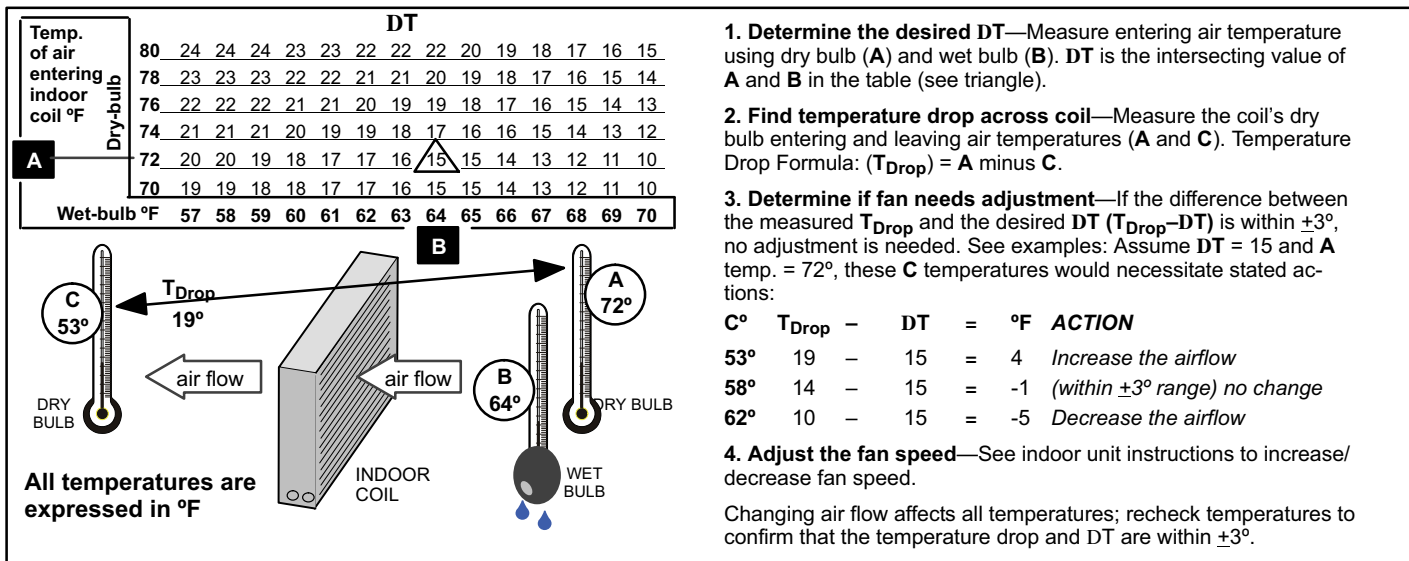

FIGURE 17
Check airflow using the Delta-T (DT) process using the illustration in figure 17.
1. Check the airflow using figure 17 to be sure the indoor airflow is as required. (Make any air flow adjustments before continuing with the following procedure.)